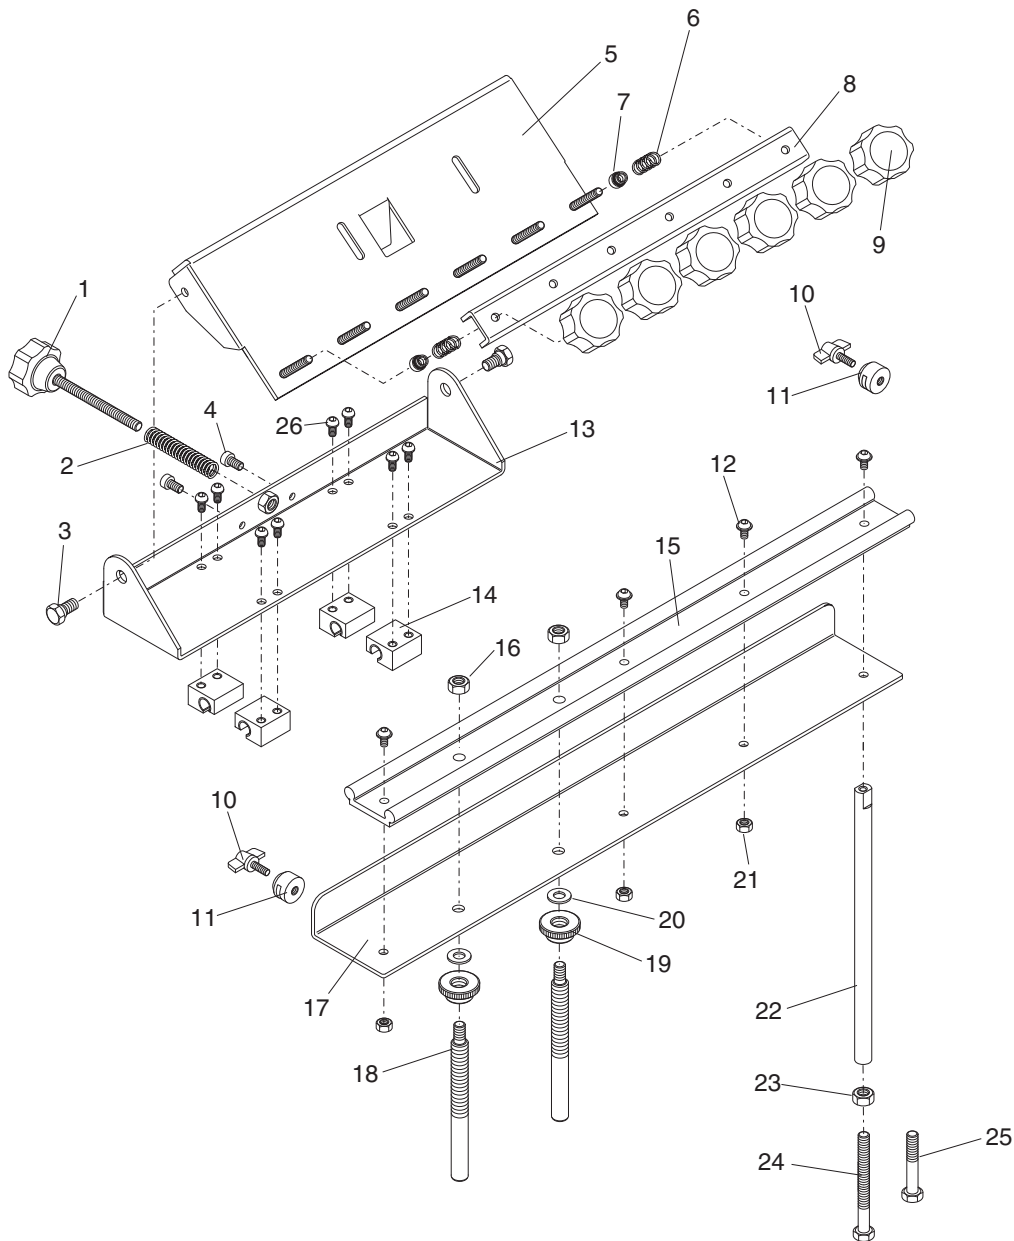

**Figure 13.** Proper hand position.
5. When the grinding wheel has reached full speed, grasp the blade clamp knobs and lower the blade onto the wheel. Reposition your hands as shown in **Figure 13** and immediately begin sliding the blade clamp back-and-forth in a smooth and steady motion, from one end stop to the other. (It is not necessary to put pressure on the blade clamp as the weight of the clamp and blade will provide sufficient pressure.) Continue this motion until the blade clamp stop comes to rest on the angle adjusting knob, then immediately lift the blade clamp and turn the grinder **OFF**.